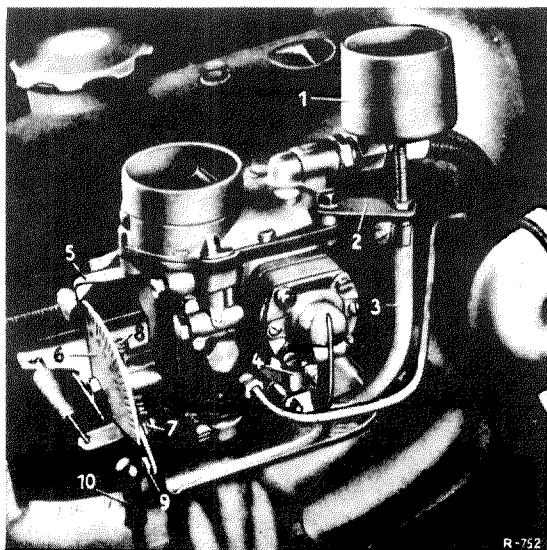

Fig. 01-3/13a
1. Disconnect the push rod (10) from the angle lever of the carburetor linkage (Fig. 01-3/13a). Back out the idle adjustment screw (7) at the throttle valve lever until the throttle valve is completely closed.